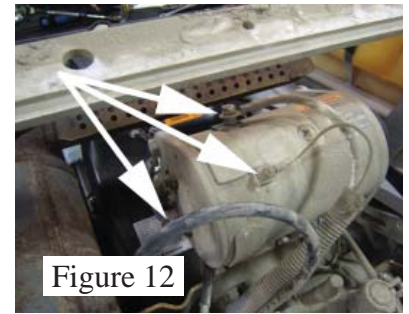

Figure 12
6. Disconnect the starter / generator ground wire from the frame. Disconnect the starter / generator power and activation wires. (See Figure 12).